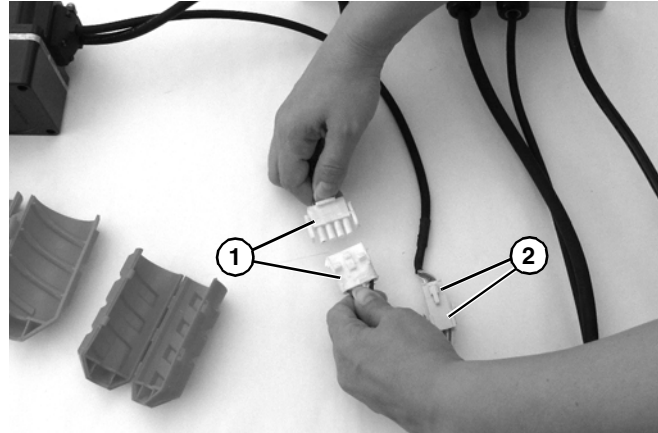

Figure 19
4. Unplug motor cord connectors (**Figure 19, item 1**) and signal cable connectors (**Figure 19, item 2**).